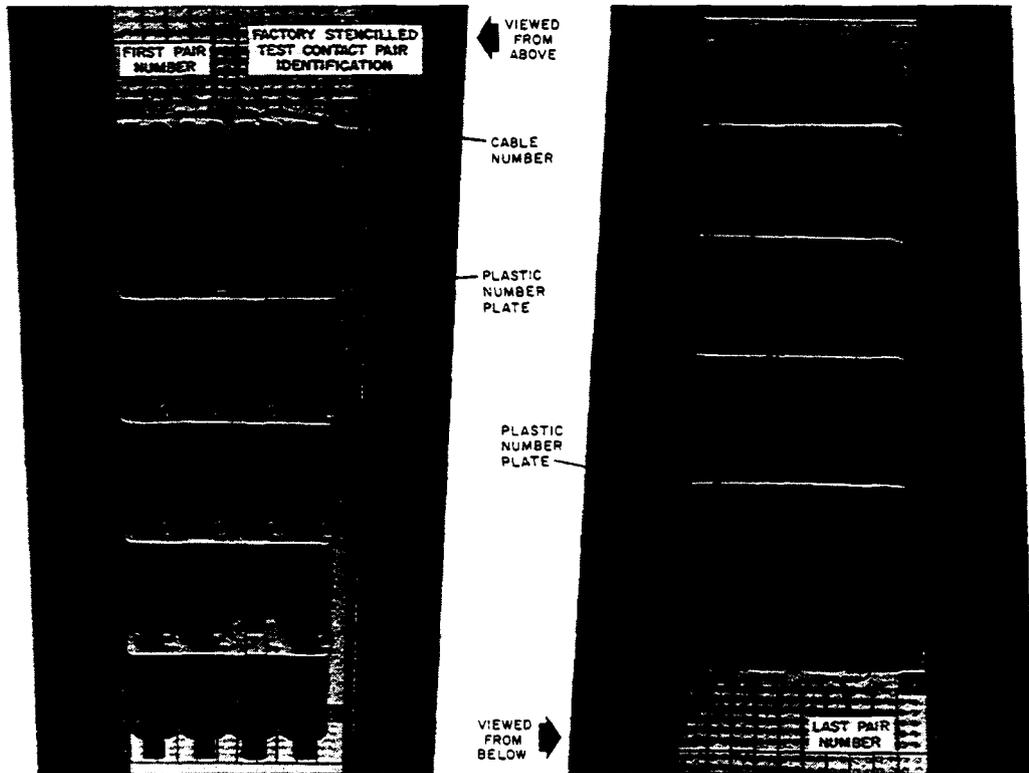
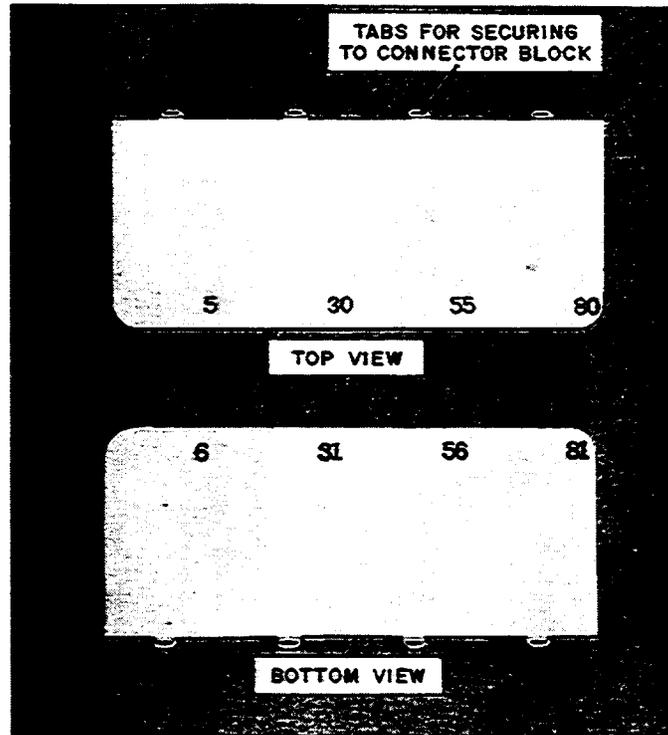

Figure 8—Stenciled 302-Type Connector
Figure 9—Plastic Number Plates
3.19 If MELD or PACE is not available, use B or W transfer stenciling kit as indicated in Practice 081-860-105, stencil each connector as follows (Figure 8):
3.20 Pair identification is provided by the use of four plastic number plates (Figure 9). These plates should be inserted horizontally under every fifth row of protector units as shown in Figure 8. Numbers 5-6,